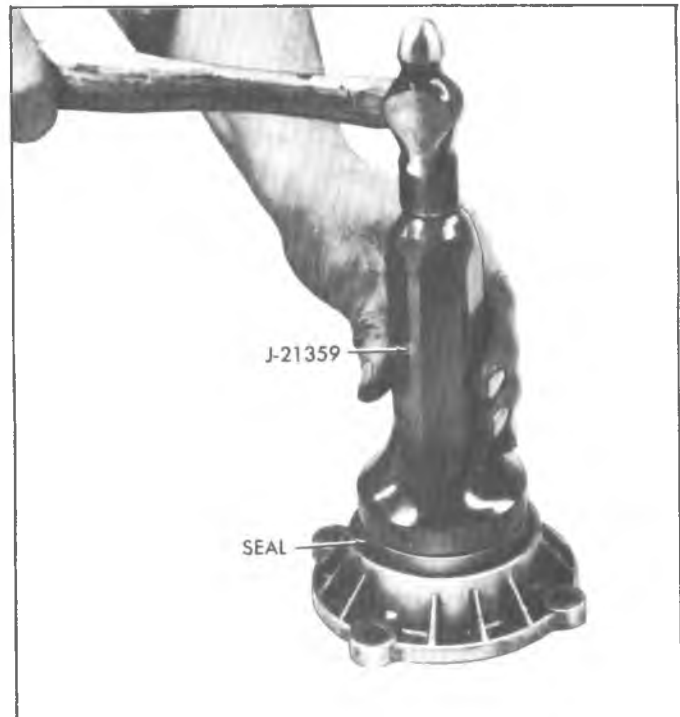

Fig. 19C-Installing Rear Bearing Retainer Seal
7. Install rear bearing retainer seal using Tool J-21359 or J- 22834-2 (Fig. 19c).